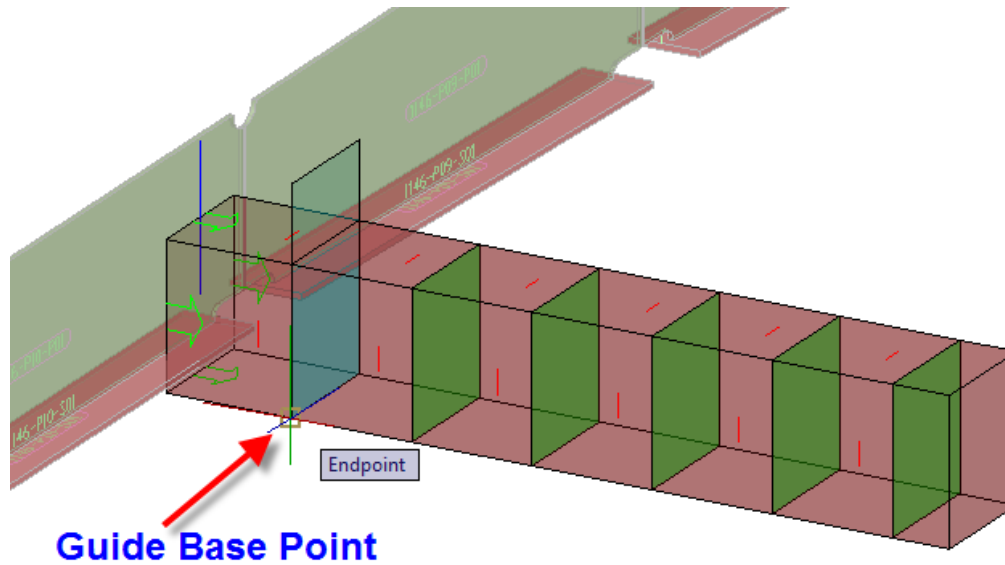

Figure 32: SCCableSupportArray - Specifying guide base point
**Insertion Guide Base Point:** (See Figure 32 below.) The insertion guide base point is a reference point you specify that determines where the insertion guide tick marks will be measured from along the length of the run. If the base point is before the start of first space allocation, then the first tick mark will be at the first multiple of the insertion period that falls inside the space allocation. If the base point is inside the space allocation then the base point is where the first tick mark will be placed.
4. Next, you specify the Guide Base Point (Figure 32). The guide is a set of tick marks drawn at insertion period intervals on the space allocations showing where supports will be inserted. As you move the mouse to place the base point, the guide marks will move according to the current position of the mouse.